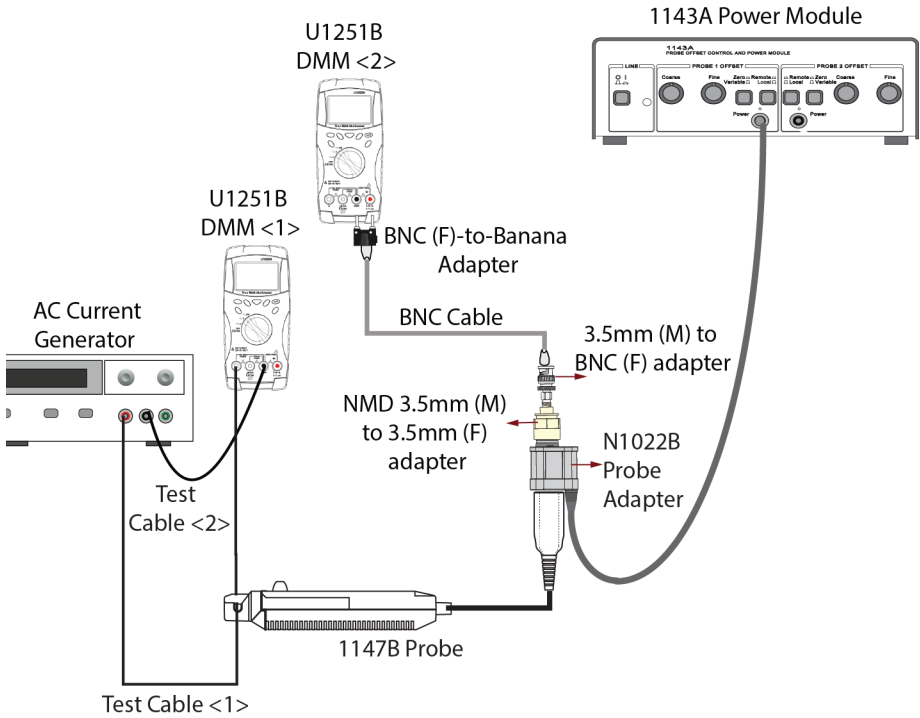

Figure 8 Complete Test Setup
- 6 As displayed in Figure 8 on page 20, connect a BNC cable to the:
- a N1022B adapter's output using the *NMD 3.5mm (M) to 3.5mm (F) adapter* and *3.5mm (M) to BNC (F) adapter*.
- b DMM <2> using a *BNC (F)-to-banana adapter*.